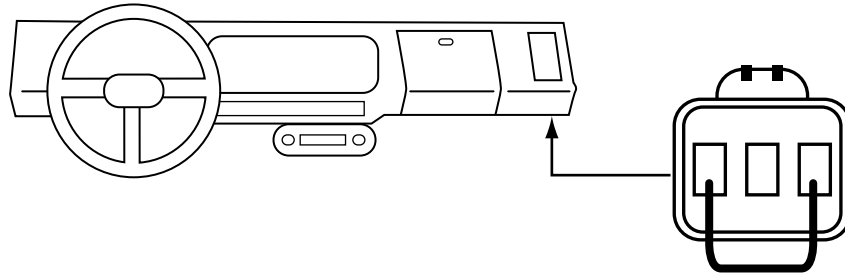

Figure 10-28 Isuzu vehicles with orange SRS diagnostic connector and jumper pins
- Type 03, see Figure 10-28 and Figure 10-29 and Table 10-9 on page 96
Start codes by:	With ignition switch on, jumper two terminals in a diagnostic connector together. Only current codes will be flashed. (Figure 10-28, Figure 10-29)